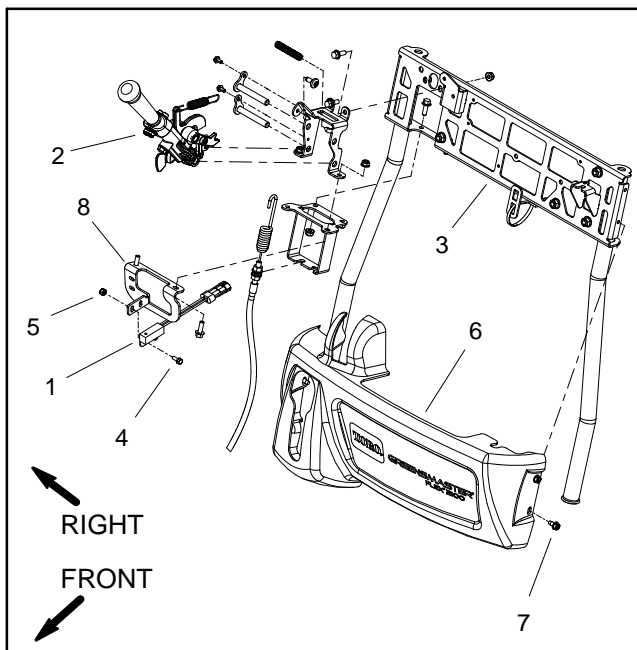

Figure 10
2. Remove console cover from handle to allow access to traction switch (Fig. 10).
2. Remove screws and lock nuts that mount switch to switch mount bracket on handle (Fig. 10). Remove switch from machine.
3. Position traction switch to switch bracket and secure with screws and lock nuts (Fig. 10).